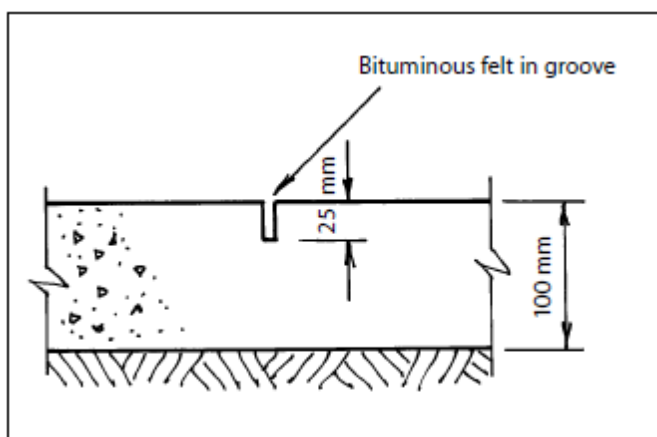

Figure 4: Grooved joint
- Grooved Joint (see Figure 4). This is used when the whole pitch is to be placed in one operation. To make a grooved joint, a steel blade about 3 mm wide is forced down into the fresh concrete to a depth of 25 mm. It is then withdrawn leaving a groove into which is dropped a strip of either bituminous roofing felt (e.g. Malthoid) or hardboard 3 mm thick cut to size. Surface finishing of the concrete can then be completed.